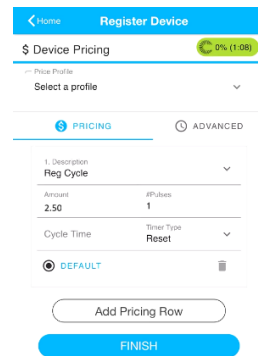

Figure 32
- iii. **#Pulses** set to 1 (**Figure 32**)
- Be sure that the price set in the app matches an amount the machine can accept. For example, if the machine's coin slide has only four slots, the configuration shown in **Figure 32** would not be compatible.